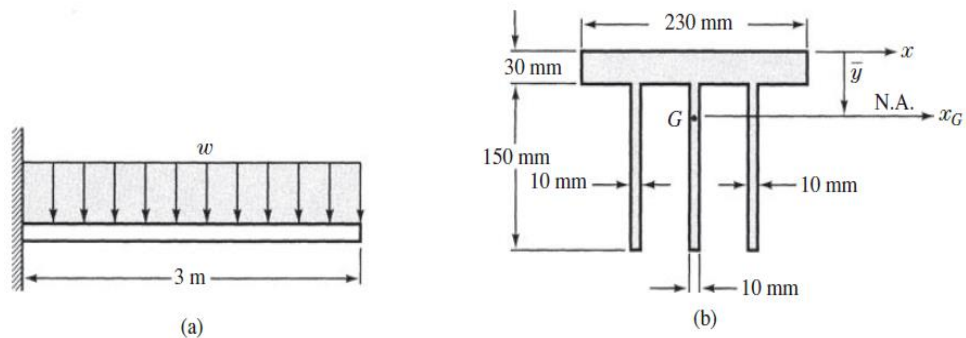

Fig 5a.
- 5 a) The extruded beam shown in Fig. 5a is made of aluminium alloy having an allowable working stress in either tension or compression of 90 MPa. The beam is a cantilever, subject to a uniform vertical load. Determine the allowable intensity of uniform loading. **08**